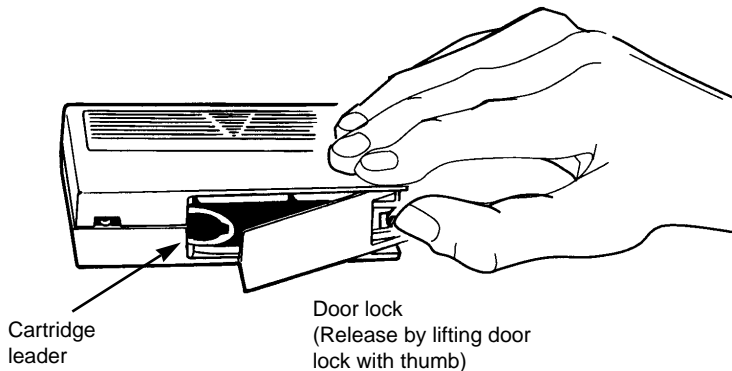

Figure 5 Tape Cartridge Leader - Correct Position
- Make sure the cartridge leader is in the correct position; open the cartridge door to inspect the leader (Figure 5).